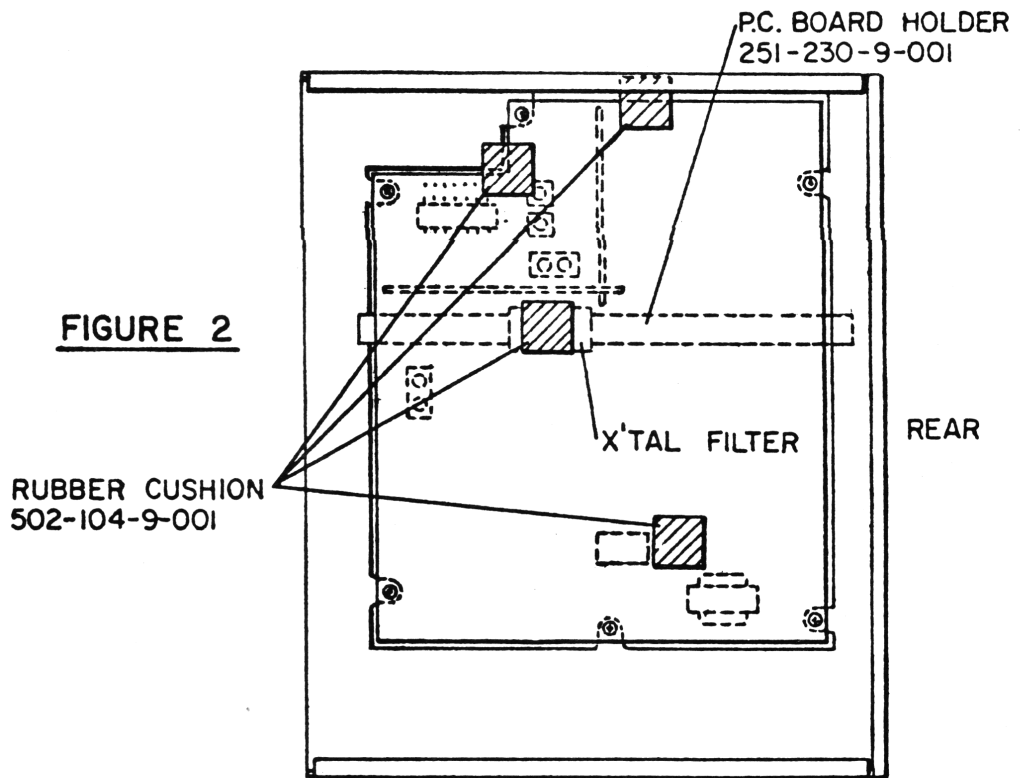

FIGURE 2
14. Remove backing paper from four rubber cushions (502-104-9-001) and paste cushions on solder side of PC board (Fig 2).